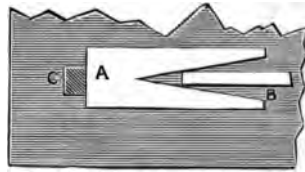

FIG. 3.—WEDGE FOR HOLDING BOARDS.
Another simple plan for holding a narrow bit of material on edge is that sketched in Fig. 3, where the shaded part is the top of the bench, with the usual planing stop (C). Instead of the end of the work resting directly against this stop, a piece of thick board, about 6in. long, intervenes, cut out in a large notch as shown. The thickness of this auxiliary piece depends on that of the work, of which the edge to be planed must, of course, stand a little above it, but the thicker it is the more support will it afford to each side of the bit of board. It is essential that the sides of the V shaped notch should be perpendicular, or the work will not stand upright; and, if preferred, the latter may be further supported by a wedge shaped piece on each side between it and the inside or walls of the notch, but this is not generally needed.